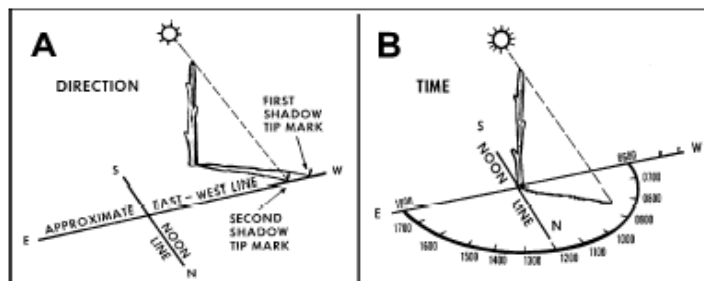

Figure 11-8. Stick and shadow method.
- Using stick and shadow method to determine a true north-south line (Figure 11-8).